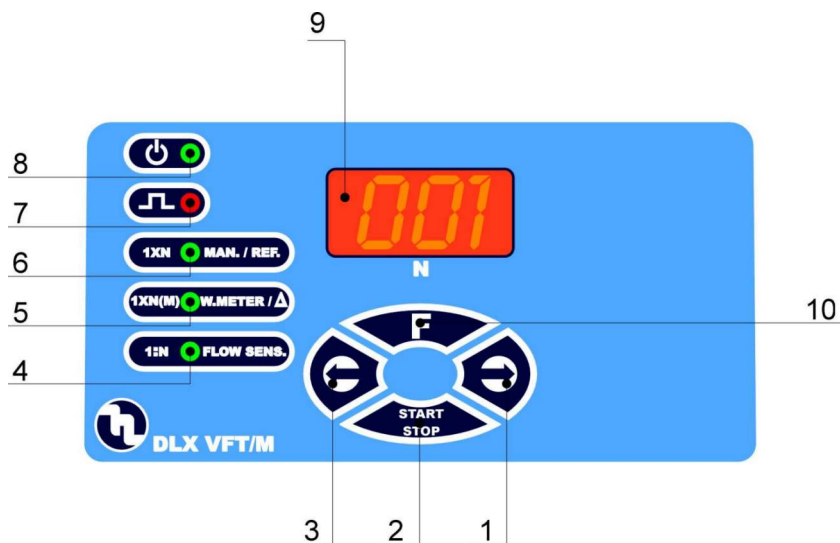
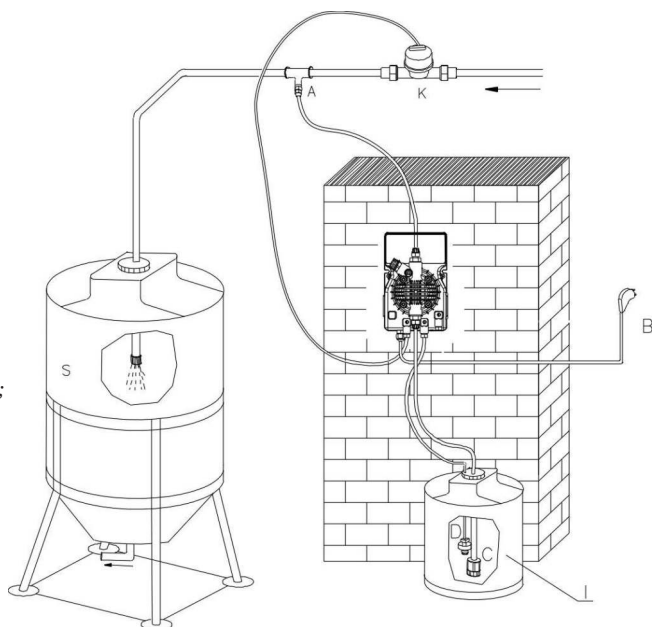

Fig. 12
Fig. 13
6.1 - PUMP CONTROLS (Fig. 12)
- 5 - "green" LED 1XN (M) function/water meter/max allowed pulse difference
6.2 - TYPICAL INSTALLATION (Fig.13)